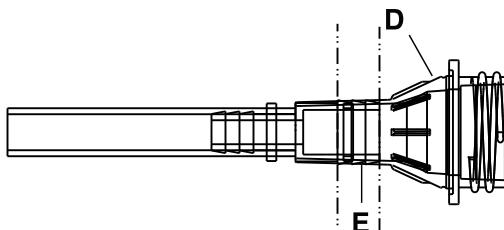

Figure 1-6: Install the cable tie to the valve body
12. Using a zip tie gun, center the supplied cable tie (E) around the valve body (D) and the reduction coupler fitting (Figure 1-6 on page 1-21).
14. Using a zip tie gun, center the supplied cable tie (E) around the valve body (D) and the reduction coupler fitting (Figure 1-6 on page 1-21).